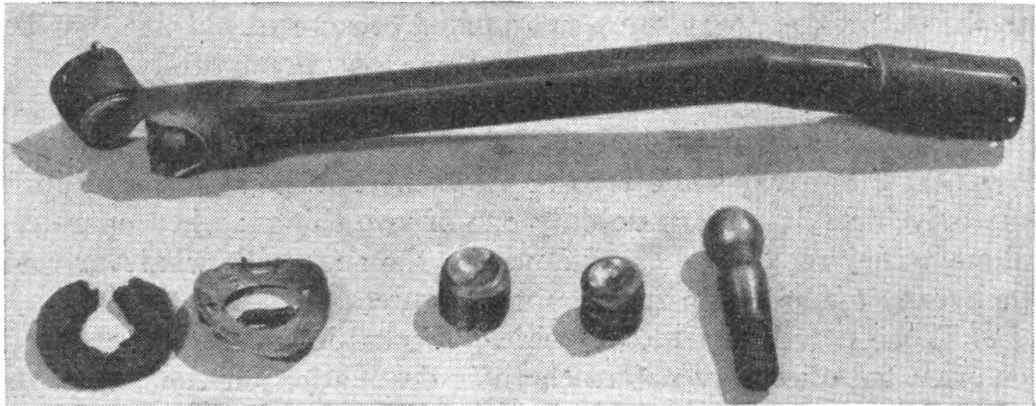

FIGURE 5.—Broken drag link plus a badly worn steering knuckle ball. (This is the result of lack of lubrication and maladjustment.)
*a. Failure to lubricate properly.—*Ask the question: "How may friction be reduced so as to avoid damage?" (By proper and regular oiling and greasing.) Pass photographs around the class or exhibit actual examples of broken spring-shackle pins, broken bearings, drag links (see fig. 5), etc., which resulted because of insufficient lubrication, and explain that failure of all of these parts was due to somebody's neglect to lubricate properly. Do not attempt to describe any parts at this time, but emphasize that in every case the vehicle could not be operated until the broken parts were replaced with new parts. While photo-
ber of important parts of the steering assembly. Emphasize that the steering assembly can be kept in safe condition without much difficulty by inspecting, lubricating, and tightening. (See fig. 5.)